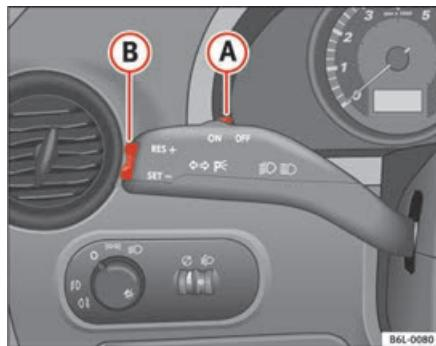

Fig. 108 Turn signal and main beam headlight lever switch and rocker switch for the cruise control
- Press the upper part **RES** of the rocker switch **⇒ fig. 108 B** to increase the speed. The vehicle will continue to accelerate for as long as you keep the rocker switch pressed. When you release the switch, the new speed is stored.
Control of the set speed is switched off if you reduce speed by depressing the brake pedal. Reactivate the control by pressing once on the upper part of the rocker switch **RES+ ⇒ fig. 108 B**.